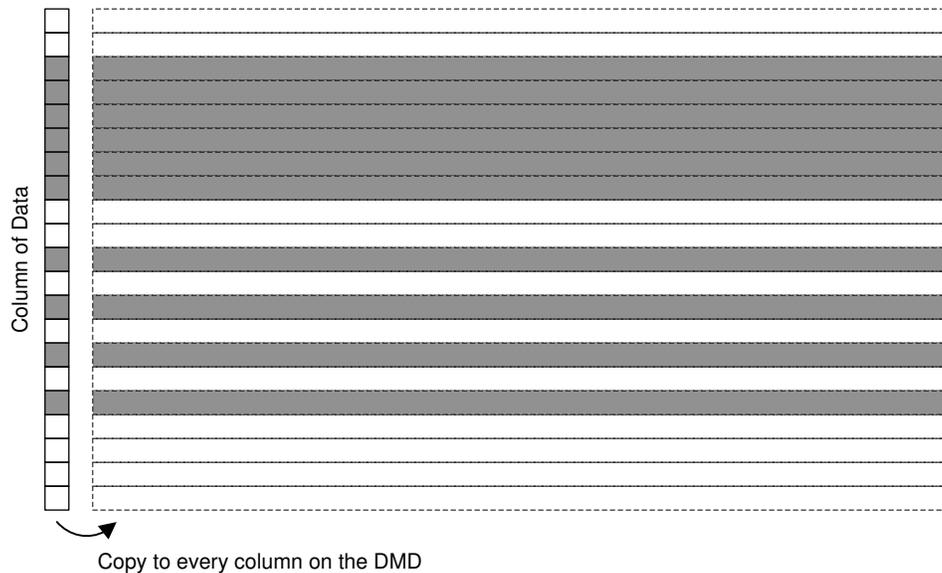
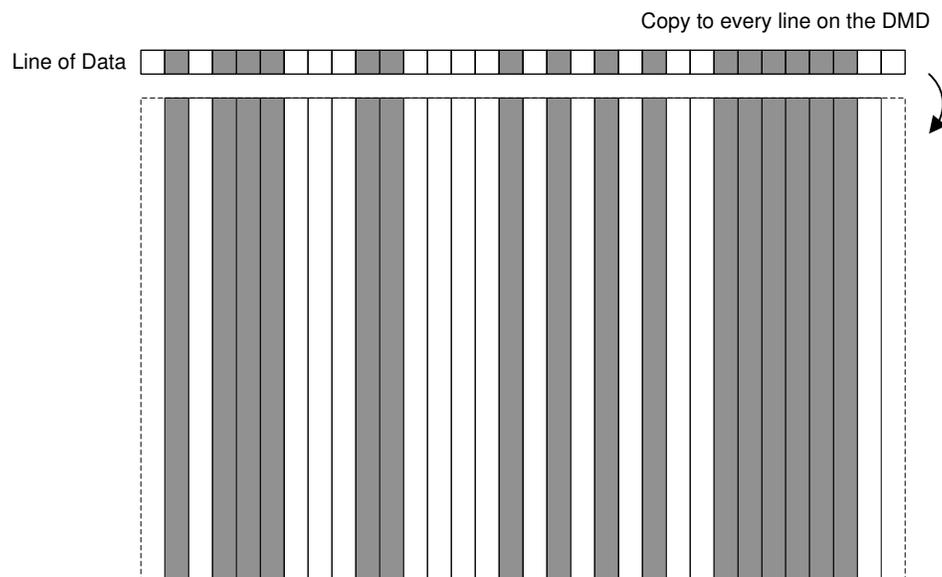

Figure 6-12. Column Replication
Figure 6-13. Row Replication
- Internal pattern mode only supports 1D patterns; that is, the pattern data is the same across the entire row or column of the DMD (Figure 6-12, Figure 6-13).